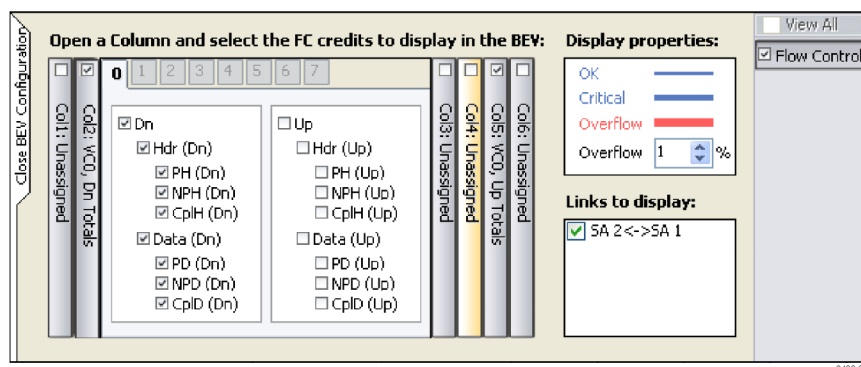

Figure 39: BEV Configuration panel with Flow Control selected
1. Click the Configure BEV tab at the top-right side of the BEV to open the BEV Configuration panel. The panel shows the options for the Flow Control visualization. (See Figure 39.)